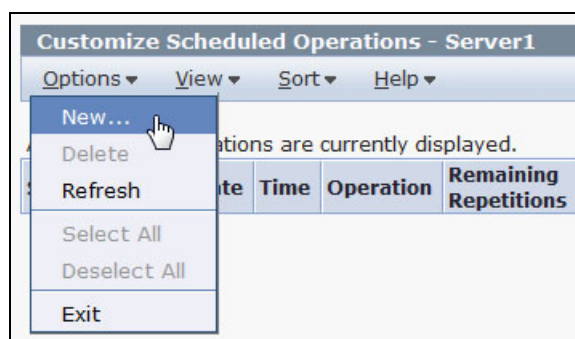

Figure 1-14 Customize Schedule Operations window
2. Create a schedule in the Customize Scheduled Operations window by clicking **Options** → **New**, as shown in Figure 1-14.